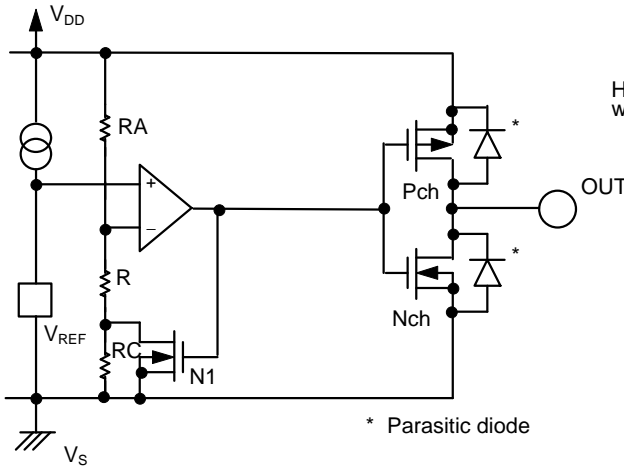
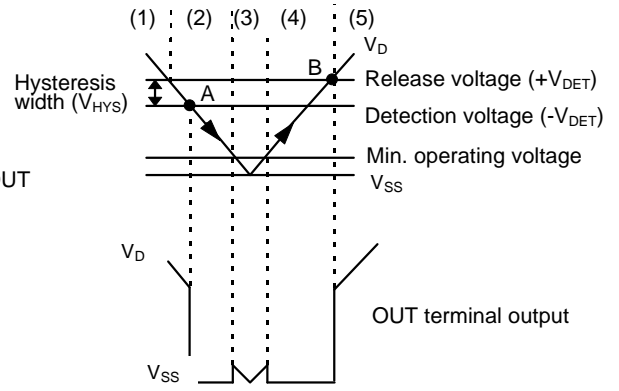

Figure 9
Figure 10
The hysteresis width is the voltage difference between the detection voltage and the release voltage ( $B-A=V_{HYS}$  in Figure 10). By giving a device hysteresis, trouble such as noise at the input is avoided.
- (2) When power supply voltage  $V_{DD}$  goes below  $+V_{DET}$ , the output maintains the power supply voltage level, as long as  $V_{DD}$  remains above the detection voltage  $-V_{DET}$ . When  $V_{DD}$  does fall below  $-V_{DET}$  (A in Figure 10), the Nch transistor goes ON, the Pch transistor goes OFF, and  $V_{SS}$  appears at the output. With the Nch transistor N 1 of Figure 9 ON, the comparator input voltage is  $RB/(RA+RB) \times V_{DD}$ .
- (3) When  $V_{DD}$  falls below the minimum operating voltage, the output becomes undefined. However, output will revert to  $V_{DD}$  if a pull-up has been employed.
- (4)  $V_{SS}$  will again be output when  $V_{DD}$  rises above the minimum operating voltage.  $V_{SS}$  will continue to be output even when  $V_{DD}$  surpasses  $-V_{DET}$ , as long as it does not exceed the release voltage  $+V_{DET}$ .
- (5) When  $V_{DD}$  rises above  $+V_{DET}$  (B in Figure 10), the Nch transistor goes OFF, the Pch transistor goes ON, and  $V_{DD}$  appears at the output.